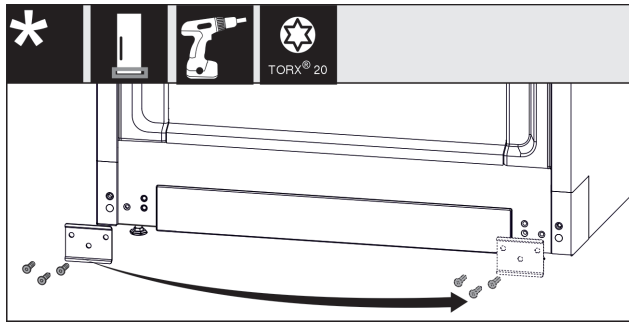

Fig. 12
- Unscrew the metal plate, move it to the other side and screw it on again. Fig. 12 (1)